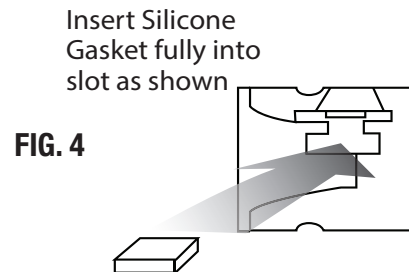

FIG. 4
4. Insert small silicone gasket (**FIG 4**). Into slot at one end of tape. Make sure that wafer is embedded all the way and is held firmly.